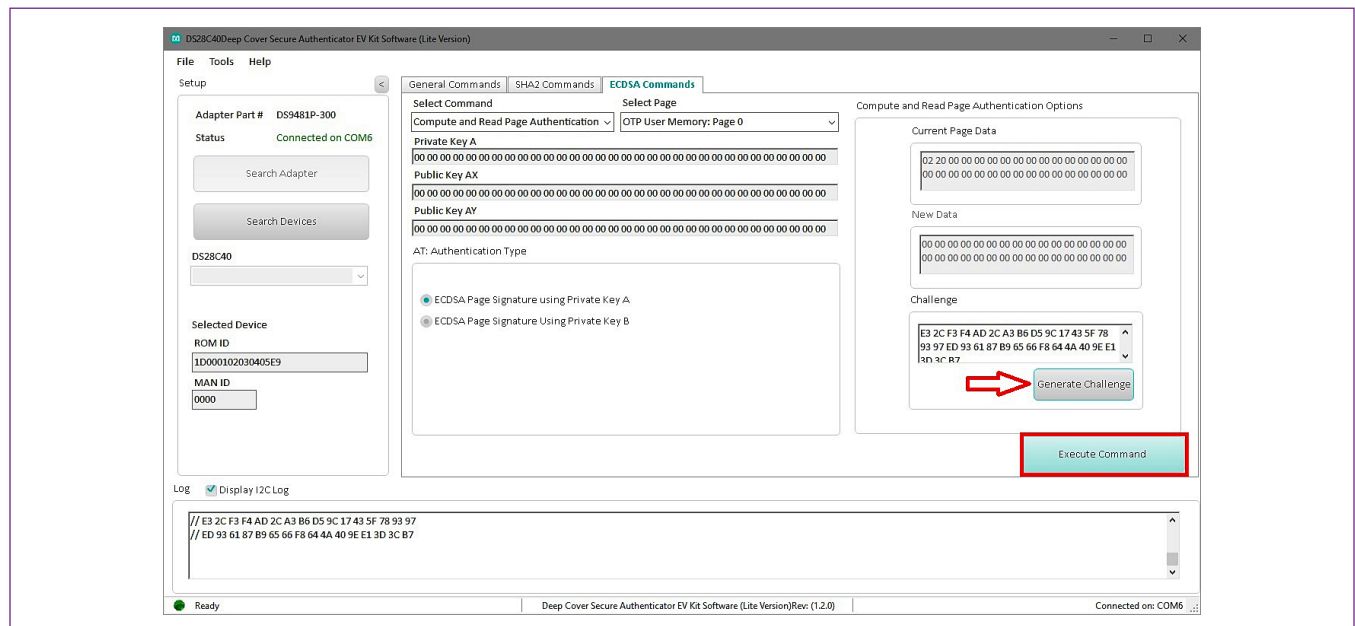

Figure 28. Execute Command
- 7) Click the **Generate Challenge** button and then click **Execute Command** button to perform the sequence (Figure 28). Results are displayed in the **Log** box.